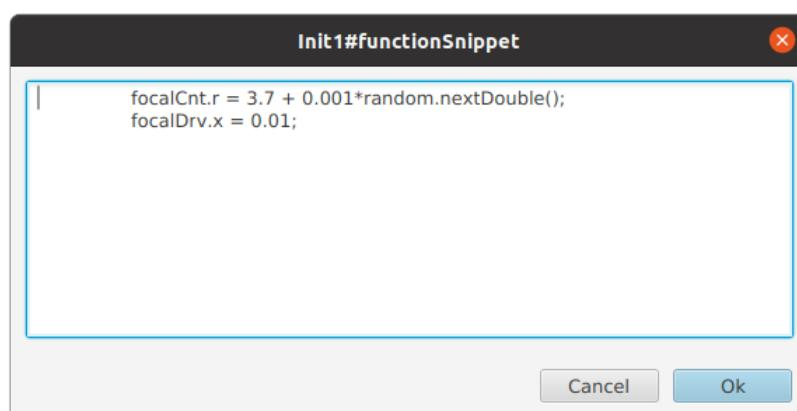

Figure 32. Entering Java code snippet for the `initFunction` (for the `system:sys1` component) in the property editor.
14. Enter the following two lines in the `Init1#javaCode` property (Figure 32):